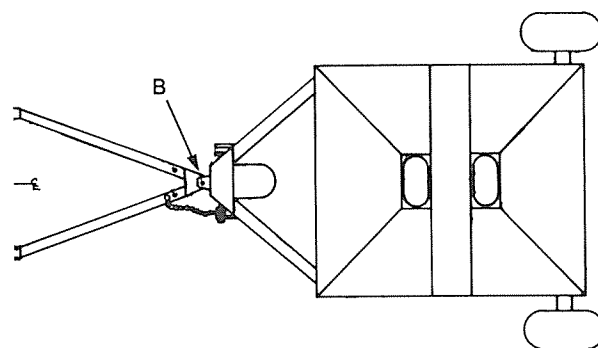

Figure 12
- Turn hitch around into field position. (See Fig. 12)